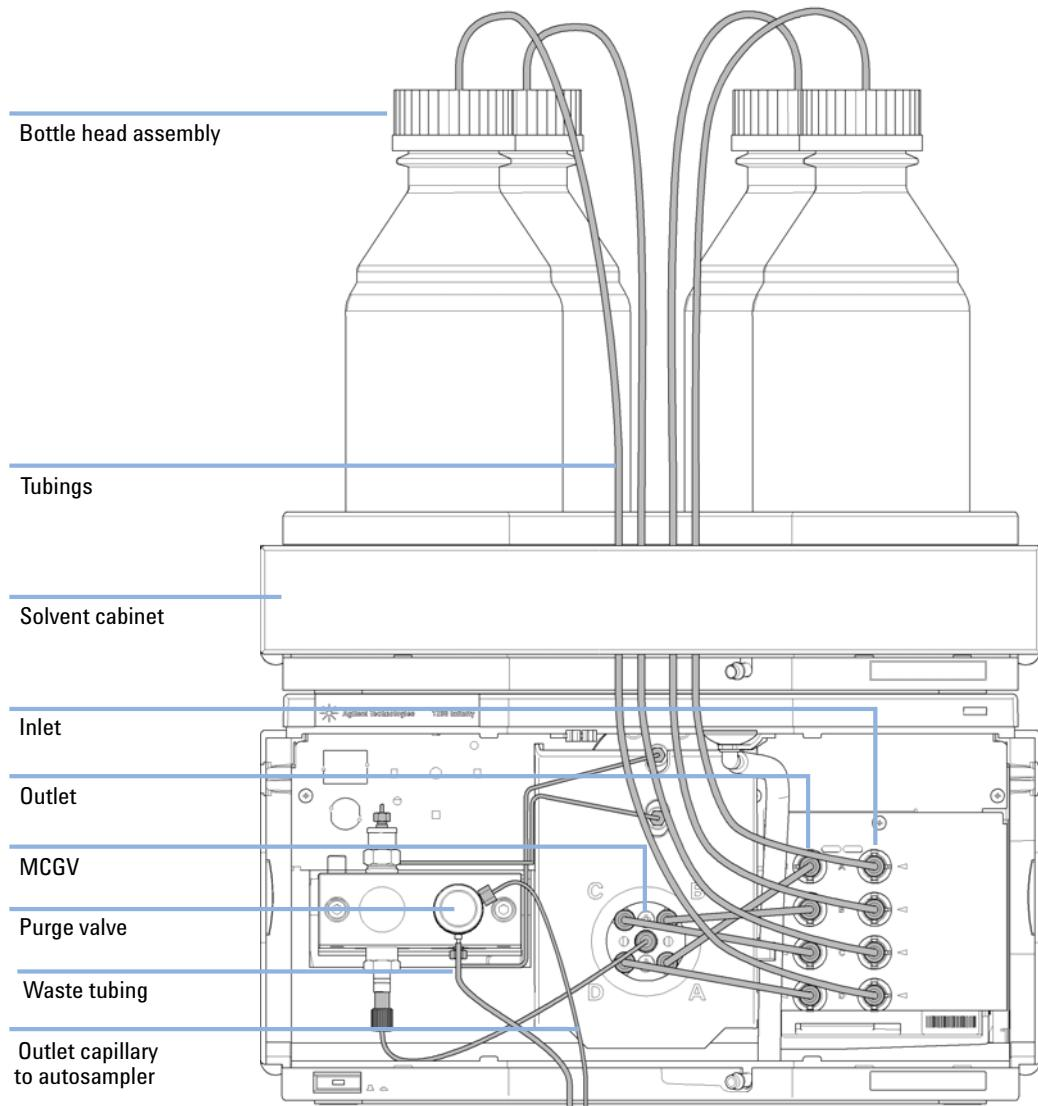

Figure 11 Flow Connections of the Quaternary Pump
- 4 Connect the inlet tubes from the bottle-head assemblies to the inlet connectors A to D at the right hand side of the vacuum degasser, see **Figure 11** on page 46. Fix the tubes in the tube clips of the pump.